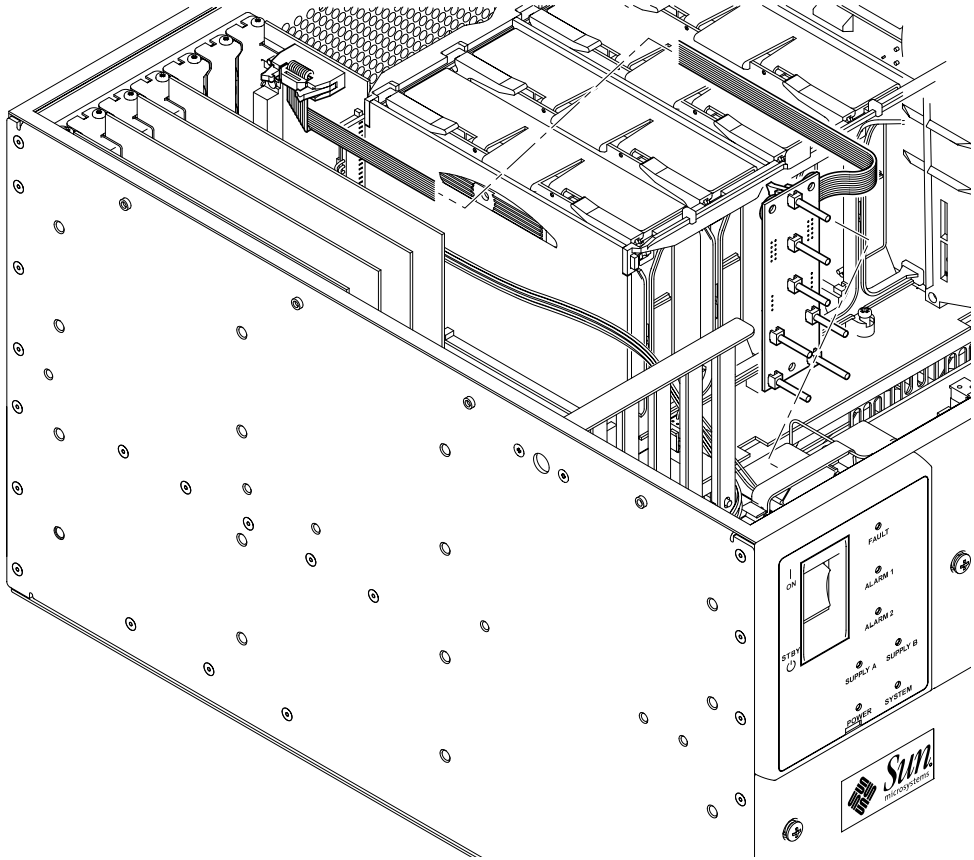

FIGURE 7-3 Removing and Replacing the LED Card.
7. Pull the LED card from the standoffs. See FIGURE 7-3 on page 7-9.